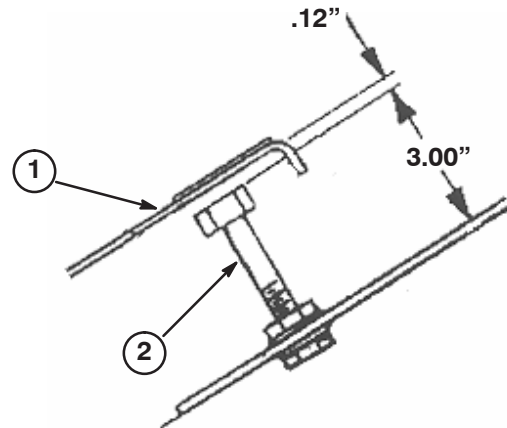

**Figure 57**
1. Adjust throttle cable (Fig. 57) so governor lever on engine contacts low and high speed set bolts before throttle lever contacts slot in control panel.